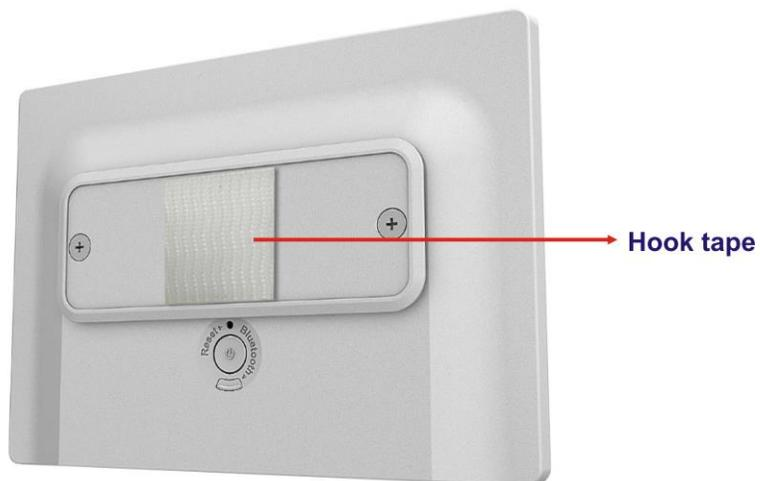

Figure 3-4: Install Hook Tape
- Step 2:** Install the loop tape onto the surface, and install the hook tape on the middle of the Peach-E73's battery cover (Figure 3-4).